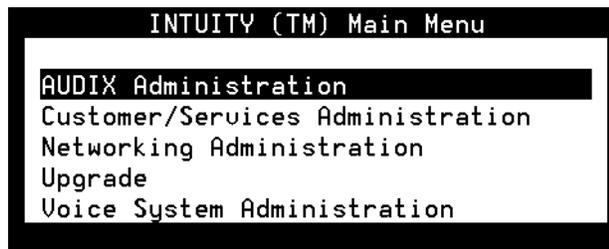

Figure 2-1. Lucent INTUITY Main Menu
1. Start at the Lucent INTUITY Main Menu (Figure 2-1).
1. Starting at the Lucent INTUITY Main Menu (Figure 2-1), select